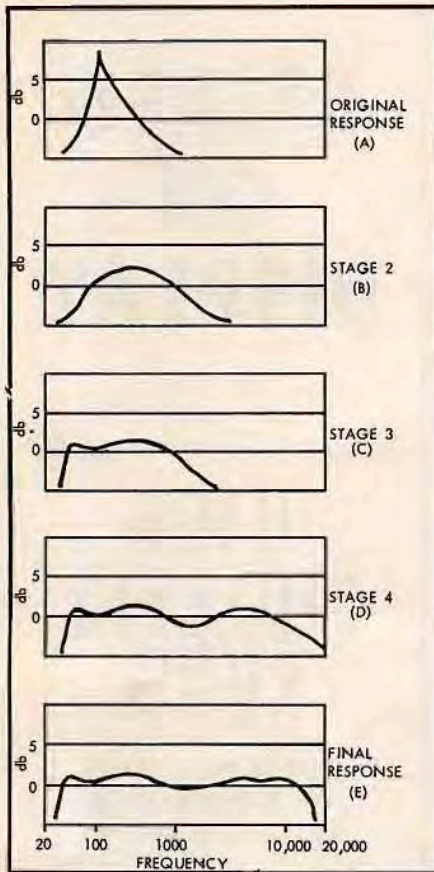
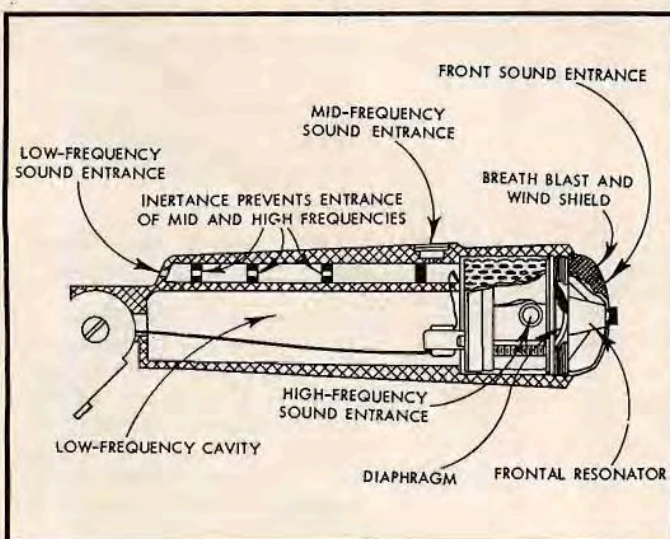

Fig. 6. Stages in smoothing and broadening the response of a commercial dynamic microphone.
Fig. 7. Construction of a high-quality dynamic microphone.
of mechanical-acoustic principles to smooth and extend the frequency response of the basic mechanism. Damping and resonating devices in the form of felt, tubes, air chambers and cavities, shape of the housing, and so on are combined to produce the desired frequency response. Figure 6 presents a series of curves showing how the initial response of an elementary dynamic microphone (A) was gradually smoothed and broadened by the successive addition of several mechanical-acoustic devices, culminating in a microphone of very high quality. Figure 7 is a drawing of another high-quality microphone, suggestive of its design complexity; note, for example, the three different entrances for low, middle, and high frequencies.